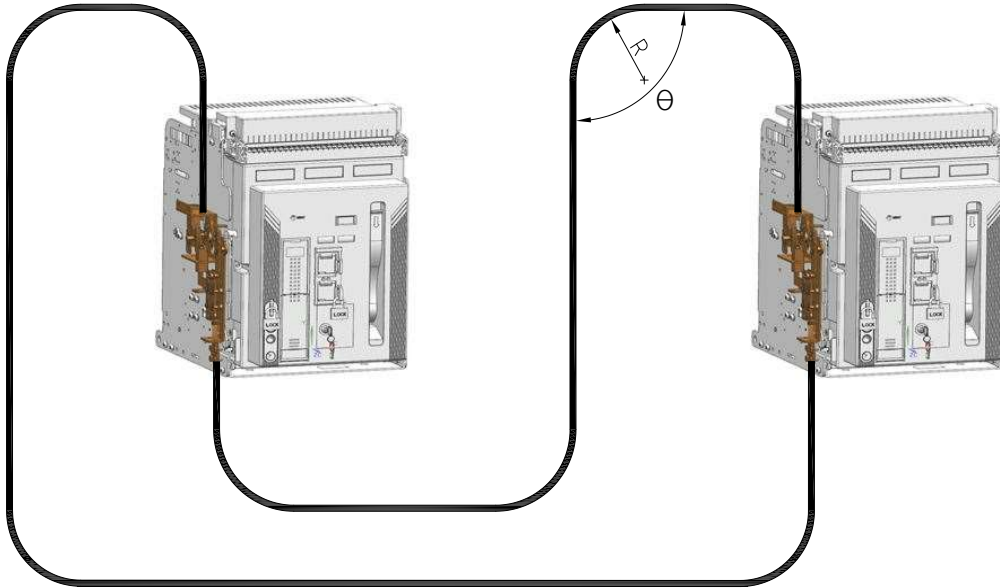

FIG 17
*WIRE 배열 / *Arrange of wire [FIG 17]